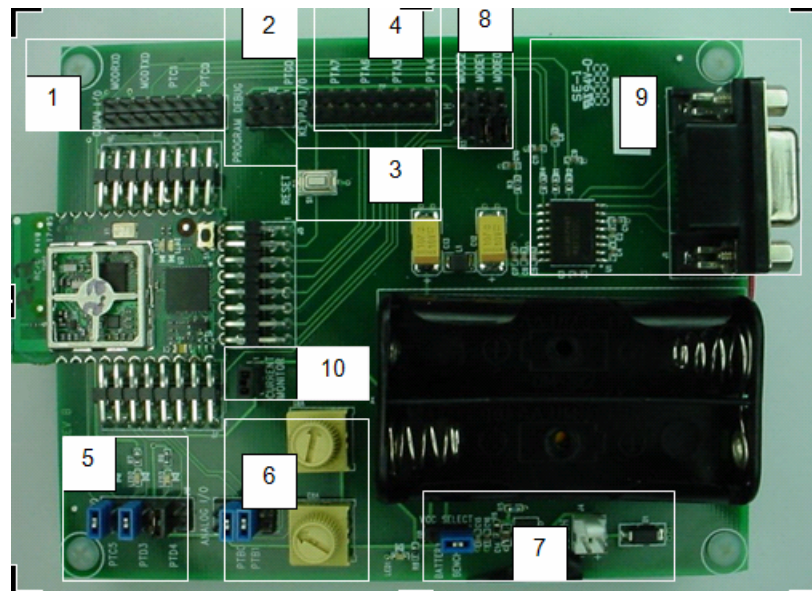

Figure 3-1 Interface Module with FreeStar Module Inserted in Socket
1. Press white reset button on Interface Board (See Figure 3-1 location 3) and black button on FreeStar module simultaneously.
3.1.1 Interface Board Description for Each Location Shown in Figure 3-1
- Header that allows the user to monitor the serial TX (MODTXD) and RX (MODTXD) data lines from section 9 as shown in Figure 3-1 above. The header also provides quick access to Port C pins 0 and 1 on the microprocessor.
- To utilize LED's the jumpers must be connected as shown in Figure 3-1. The jumpers may be removed to externally access Port C pin 5 and Port D pins 3 and 4 for input or output operation.